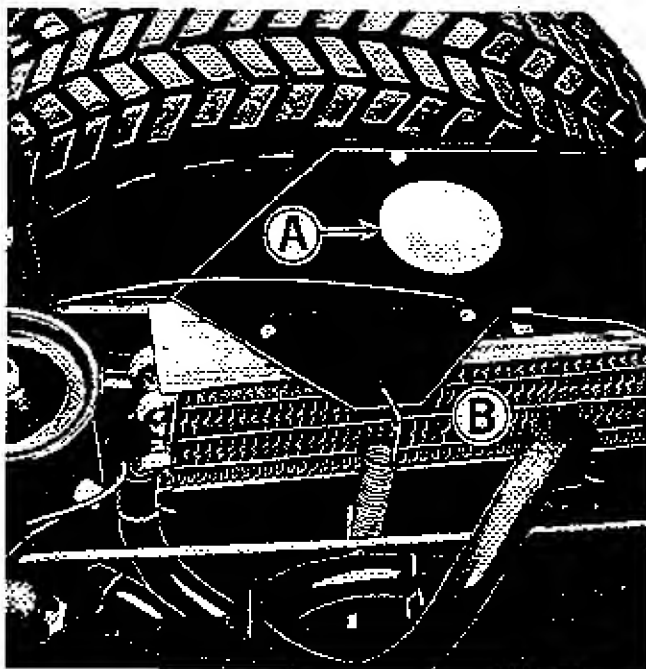

Figure 17. Transmission oil cooler, located under seat deck.
CLEAN TRANSMISSION OIL COOLER: See figure 17. Use a screw driver to remove plug (A). Inspect the oil cooler (B) and if necessary remove any dirt, chaff or oil, which may decrease the efficiency of the cooler. Dirt and chaff collected on the outside of the cooler can usually be brushed off after the engine has been stopped. Be careful not to bend the cooler fins. If grass, chaff, or dirt collect between the fins, it may be necessary to use air or water pressure to blow it out. A non-flammable solvent should be used to remove any oil which may collect on the outside of the cooler. In warm or dusty operating conditions, or when mowing dry dry grass, the cooler may need to be cleaned more often to prevent foreign material from restricting air flow through it.